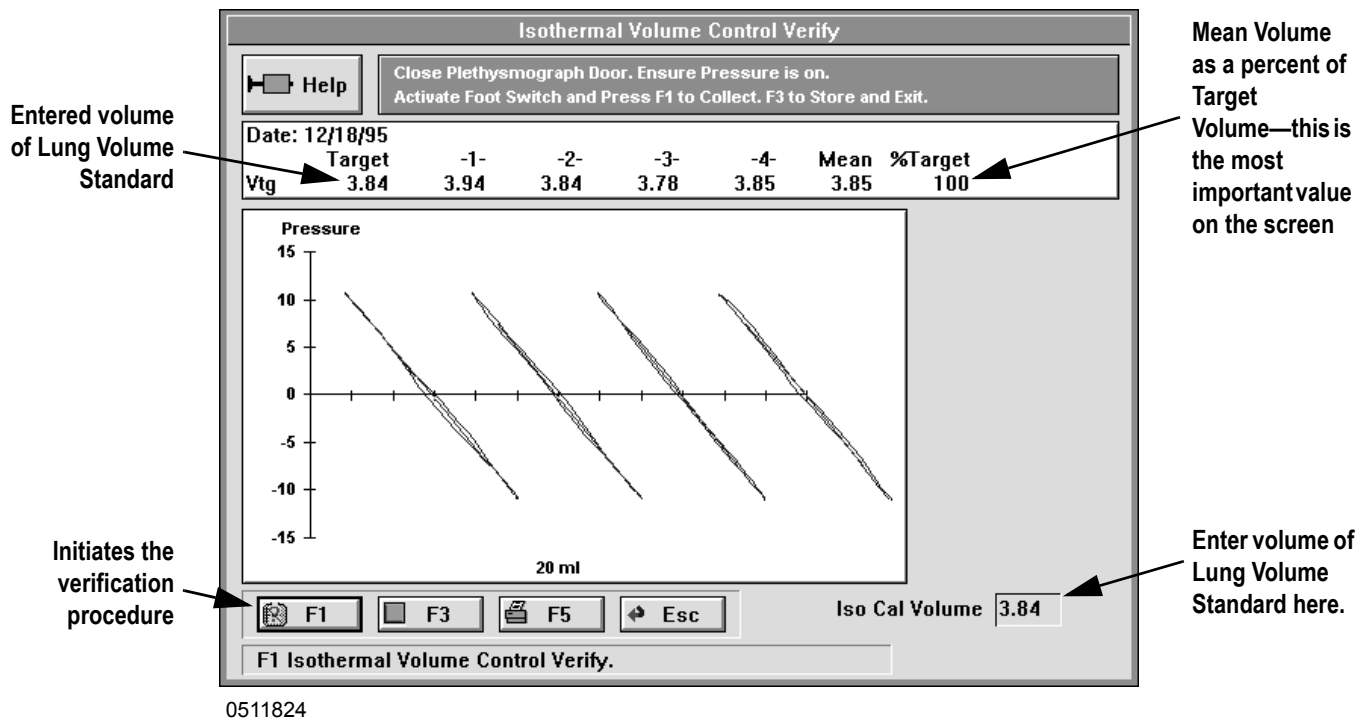

Figure 3-3 Isothermal Volume Control Verify screen
5. Select **F4** from the Plethysmograph Pressure Calibration Menu to display the Isothermal Volume Control Verify screen (Figure 3-3).